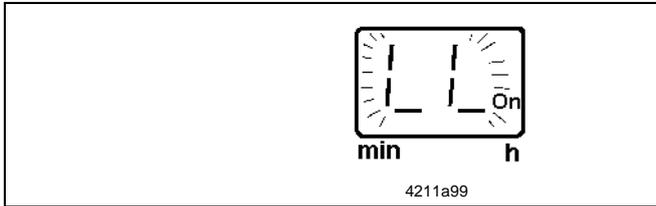

Fig. 27 Display of a low-level indication
- Right at the end appears the flashing display * LL * to indicate an unconfirmed low-level indication (see page 21, Fig. 27).
- In this case, the pump is not switched off immediately. The current operating cycle is completed. Upon expiration of the pause time, the pump cannot be started again automatically. The flashing display "LL" appears, see Fig. 27.